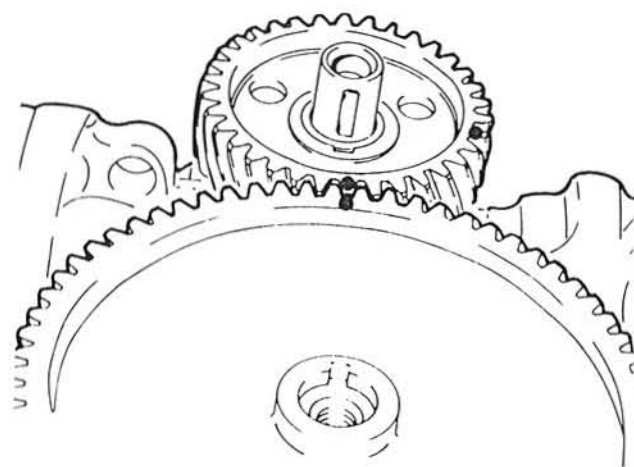

Fig. 1.5 Correct timing gear mark alignment where the crankshaft gear has two marks (Sec 32)
- 3 Fit the camshaft gear on the camshaft with the punch mark in alignment with the mark on the crankshaft gear (photo). Note that if there are two punch marks on the crankshaft gear, ensure that the correct mark is aligned (Fig. 1.5).